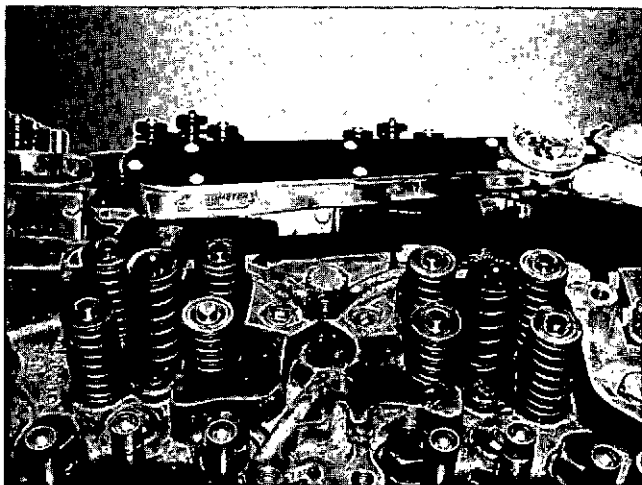

Fig. 14-1-61, V414160. Tighten injector mounting capscrews
8. Torque procedure for injector hold-down capscrews — make sure injector is positioned correctly in head. Tighten one capscrew until clamp contacts head snugly; then back out one complete turn. Torque hold-down capscrews alternately of the PT (type D) injectors and all others with Letter A or B stamped after class mark to 11 to 12 ft-lb [1.5213 to 1.6596 kg m] in 4 ft-lb [0.5532 kg m] increments. Fig. 14-1-61.